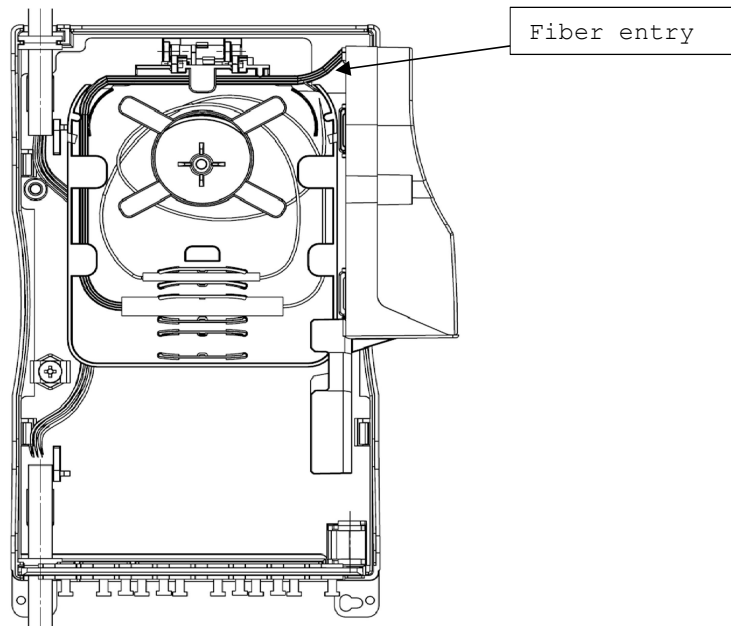

Fig. 21
- 4.3.3. Splice the feeder fiber to the splitter input fiber (Fig. 21);